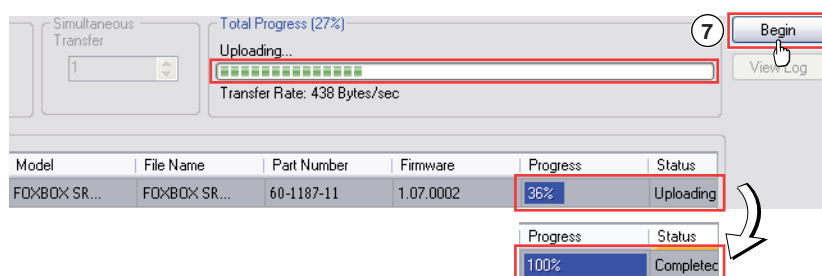

Figure 33. Firmware Loader Screen
7. In the Firmware Loader window, click **Begin** (see figure 33).